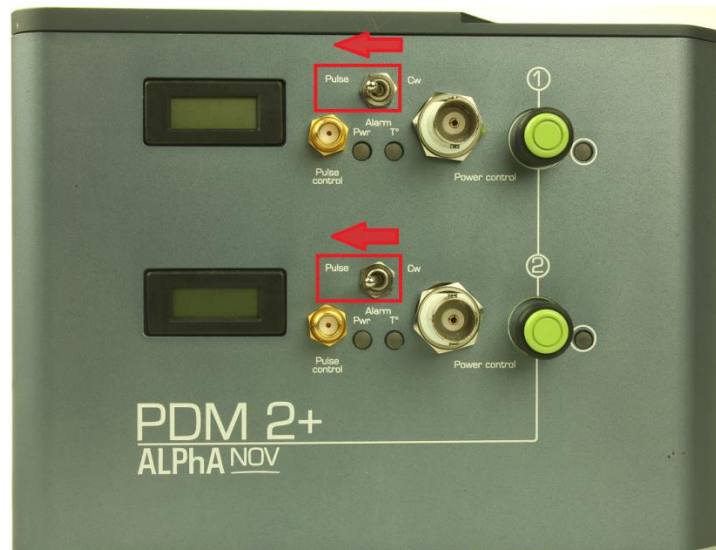

Figure 3 Switch flipped to "Pulse" side for pulse
- Set the Pulse / Cw switches towards "Pulse" for pulsed firing of the laser instead of continuous wave. (See Figure 3)